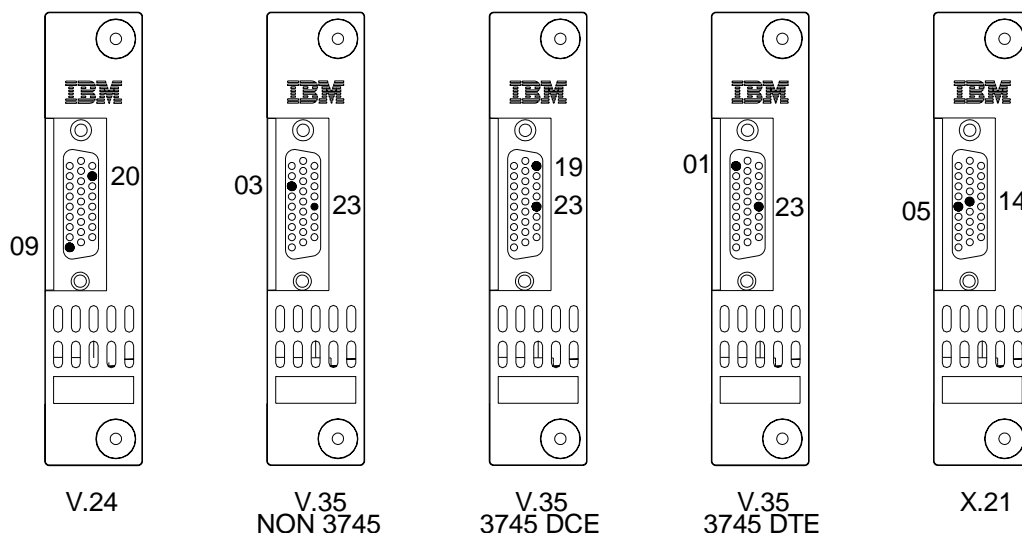

Figure 4-13. ARC Type
1. ____ According to the plugging sheet information, identify the ARC type (see Figure 4-13, note that ARC V.35 DTE is no more provided) and plug the ARC in the LCBB/LCBE locations (see Figure 4-9 on page 4-10).